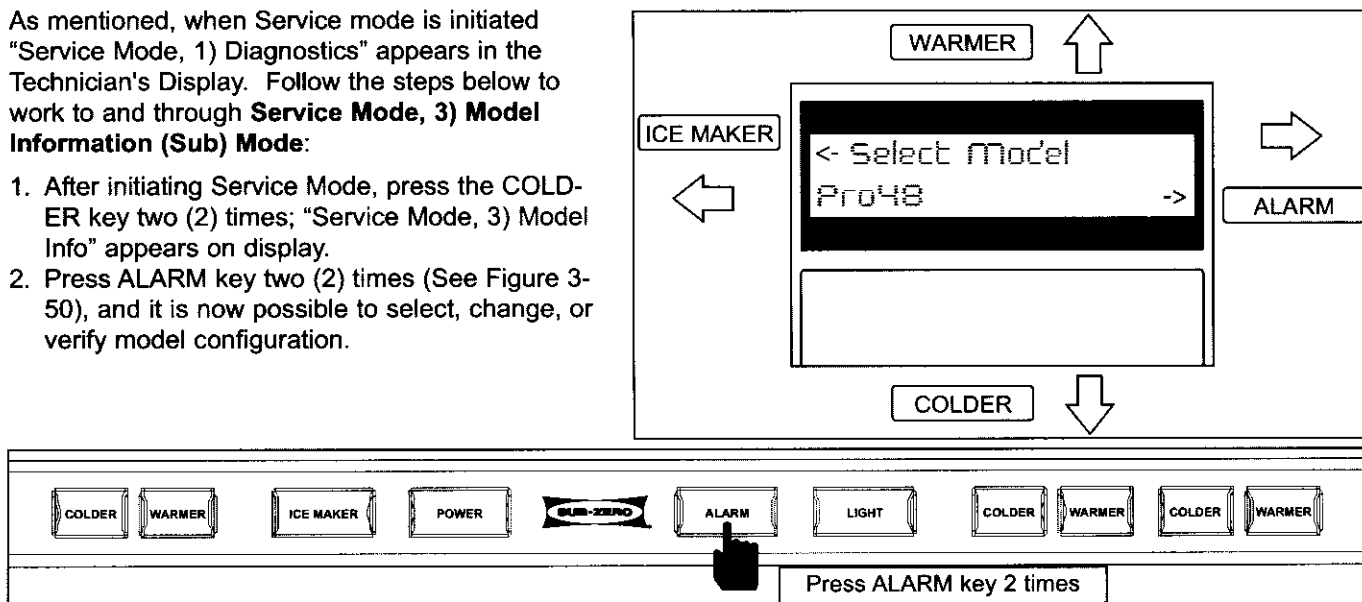

Figure 3-50. Key Strokes and Tech Display - Model Information
1. After initiating Service Mode, press the COLDER key two (2) times; "Service Mode, 3) Model Info" appears on display.
2. Press ALARM key two (2) times (See Figure 3-50), and it is now possible to select, change, or verify model configuration.